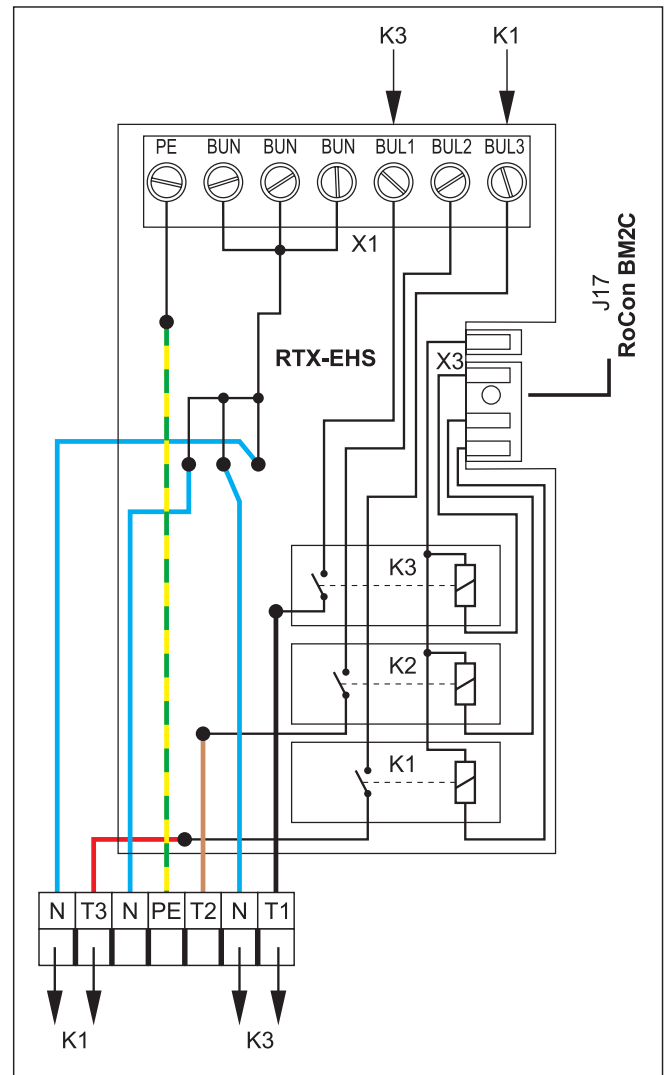

Fig. 4-38 Connection on the RTX-EHS printed circuit board
The external heat generator request is connected via a relay on printed circuit board RTX-EHS (see Fig. 4-38). Electrical connection to the HPSU compact is possible as follows;
- 3 Make suitable connections on the RTX-EHS printed circuit board of the connection set (see Fig. 4-38).